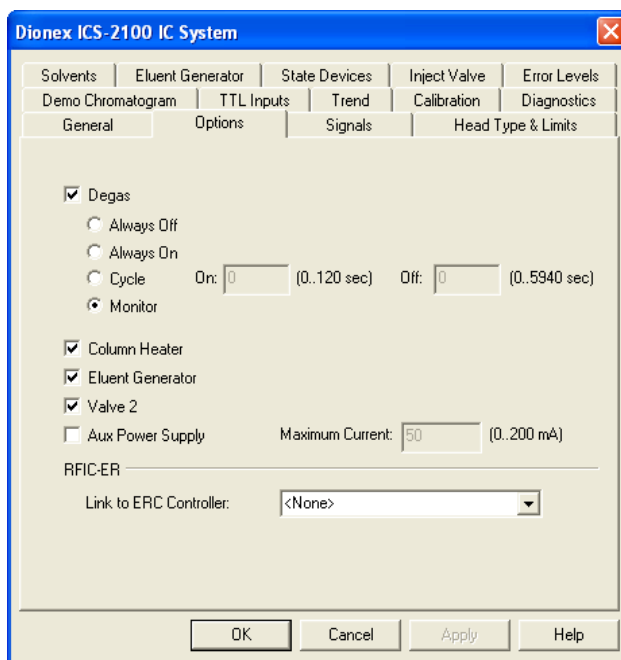

Figure 4-3. Dionex ICS-2100 Server Configuration Properties: Options
2. Select the **Options** tab (see Figure 4-3).